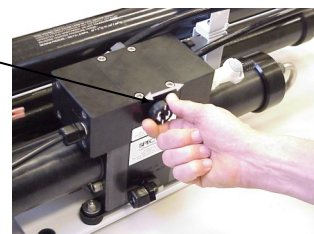

Fig. 1
4. Replace the brine overboard hose with the brine service hose per figure 1.